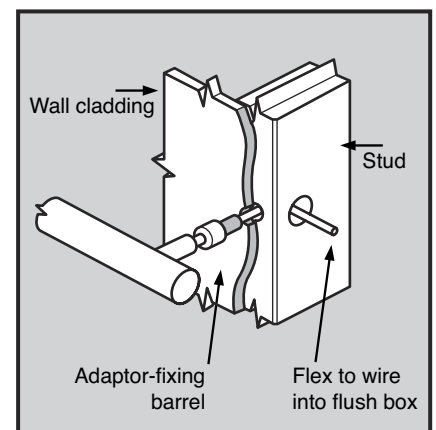

Figure 6. Heiko model only.
**NOTE: FOR HEIKO WHS690** drill 12.5mm hole for nylon mounting barrel on side for wiring. (see fig 6)